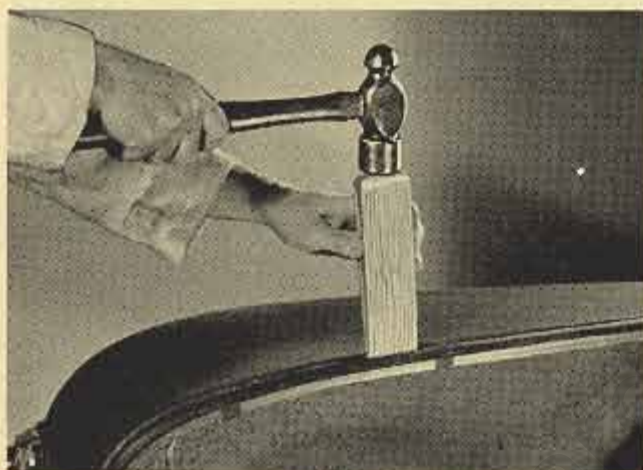

Fig. 4
4. High sections can be driven down with a wood fibre block as shown in Figure 4.